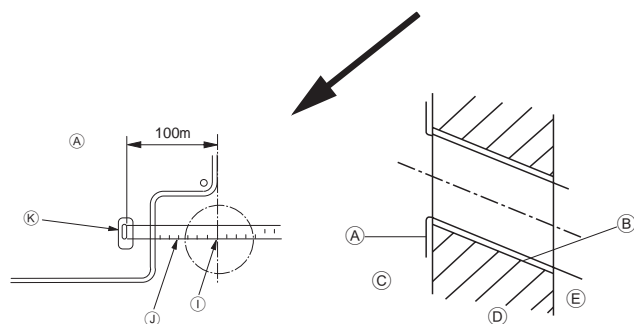

Fig. 3-3
3.2.2. Drilling the piping hole (Fig. 3-3)
- (A) Sleeve
- (B) Hole
- (C) (Indoors)
- (D) Wall
- (E) (Outdoors)